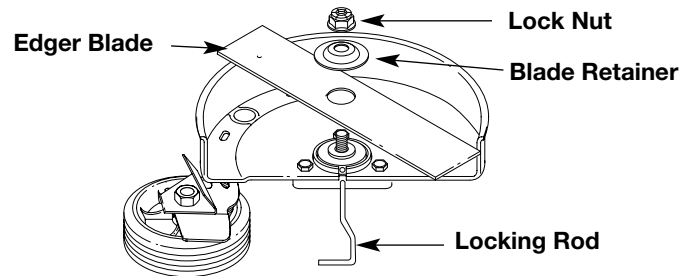
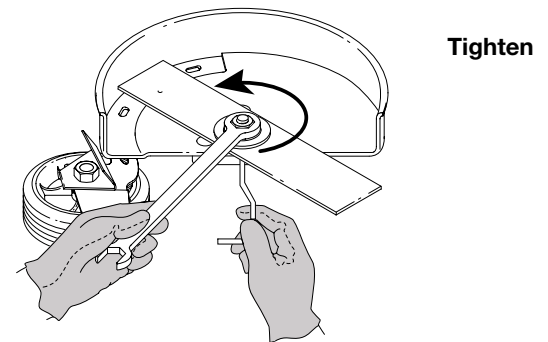

Fig. 28
Fig. 29
3. Install the new blade, blade retainer, and nut (Fig. 28). Insert the locking rod through the slot into the output shaft hole. Make sure that the blade stays flat and centered against the output shaft while tightening the lock nut **counterclockwise** (Fig. 29).
If you do not have a torque wrench, hold the locking rod in the slot. Rotate the nut **counterclockwise** with a 5/8 inch closed-ended or socket wrench, until the nut presses against the washer and the blade is snug. Make sure the blade assembly is installed correctly, then rotate the nut an additional **1/4-1/2 turn** (Fig. 29).